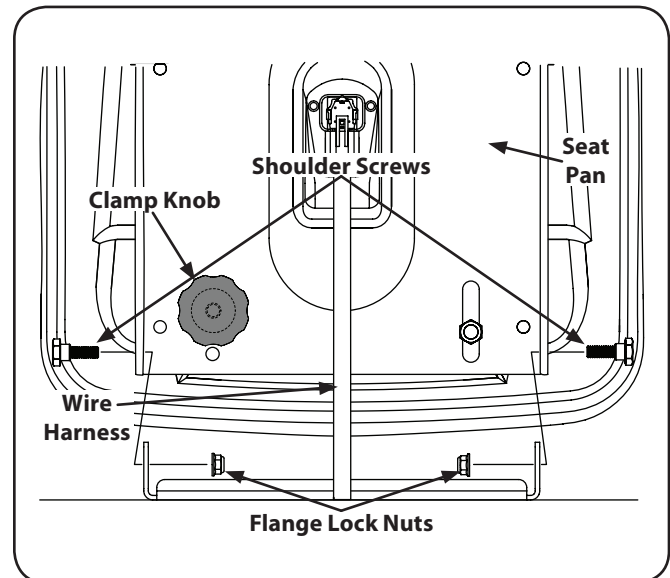

Figure 3-2
2. Remove the two shoulder screws and flange lock nuts in the seat pan as shown in Figure 3-2.
3. Rotate the seat into position and secure the seat into place with the previously removed shoulder screws and flange lock nuts. Be careful not to crimp or damage the wire harness while installing the seat. See Figure 3-2.
To adjust the position of the seat, rotate the seat forward and locate the clamp knob on the front left of the seat pan. Refer to Figure 3-2.